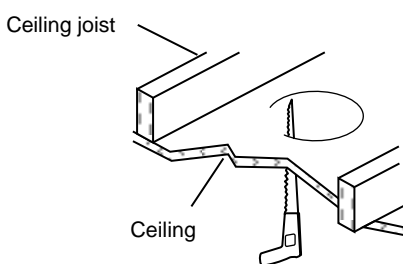

Fig. 1
2. Using a keyhole saw make a 6 1/4" hole in the ceiling surface. (Fig. 1) (**Note:** Be sure not to make the hole any larger than specified by the template. An oversized hole may not allow for proper installation.)